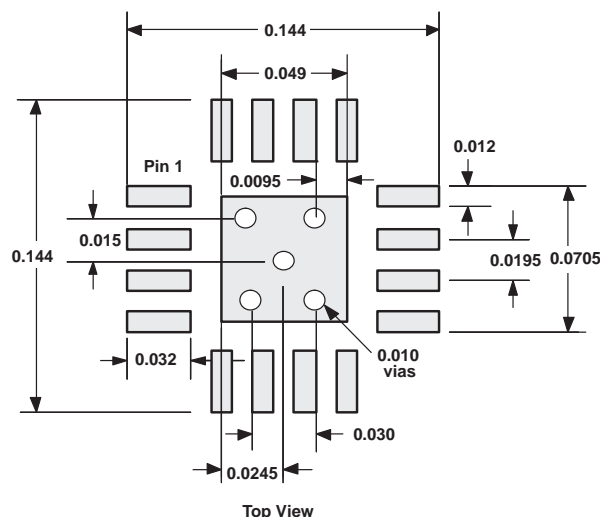

Figure 71. QFN Etch and Via Pattern
9. The THS4520 recommended PCB footprint is shown in Figure 71.